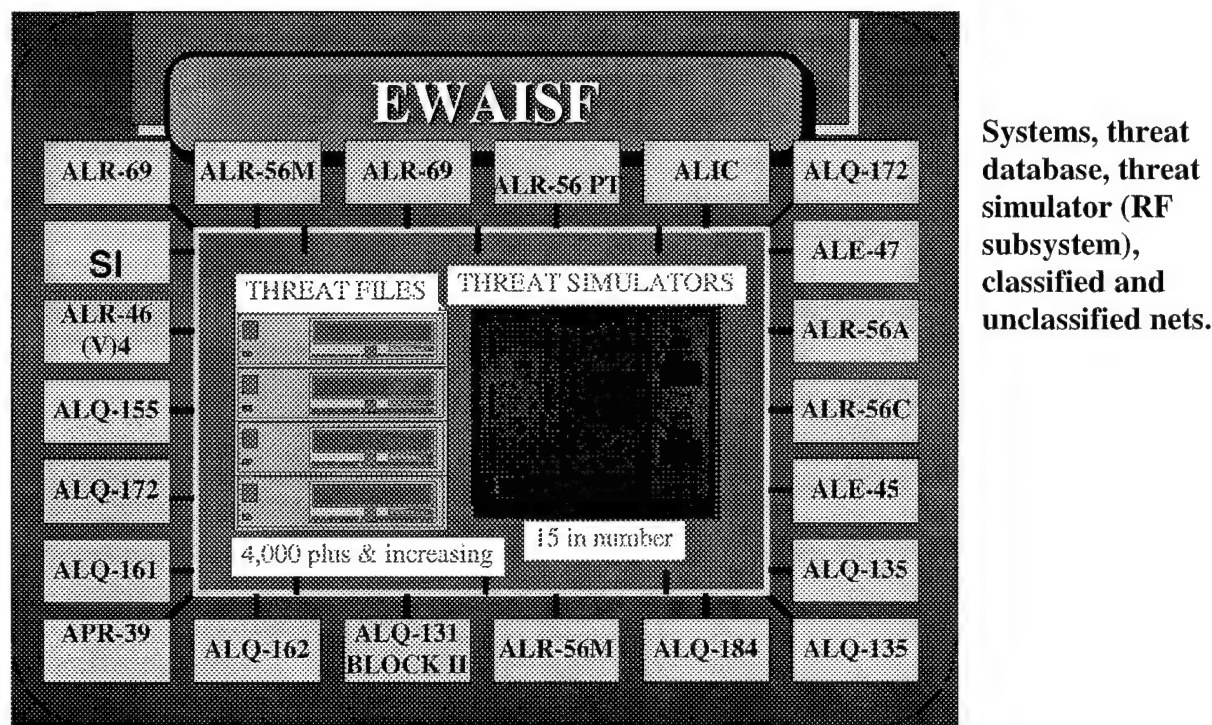

Figure 10
Before discussing the application phase, some more background information about the EWAISF, test operations, and simulator database will assist. The simulation and evaluation branch supports a number of EW systems. Any or all may need critical simulation support. We operate in what can be described as "prime time" and in an environment in which demands expert performance. In the EWAISF, there are a number of threat simulators (over 25) mainly in the radio frequency (RF) spectrum. In support of the EW systems, we have over 4,000 simulation files replicating modes of about 510 threats. In addition, we support these EW systems with other required test stimuli. Figure 10 gives a pictorial view of the EWAISF in block diagram form with our networking and key elements.